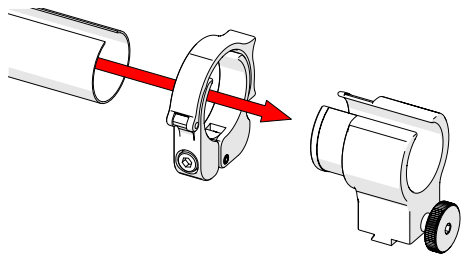

Fig. 81 - Slide tube around mount
2. Slide the clamp around the tube first, then slide the tube around the outside of the cable management dovetail mount (Fig. 81). Align the zipper opening and the cable management dovetail mount opening.